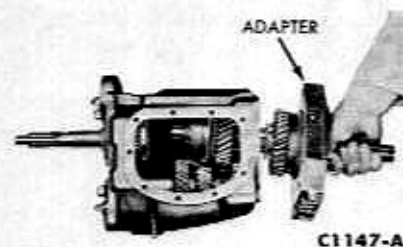

FIG. 7—Overdrive Adapter and Transmission Output Shaft Removal
15. Remove the overdrive adapter and transmission output shaft assembly from the case (Fig. 7).
25. The input shaft bearing should be replaced with the tools shown in Fig. 7, Part 5-2.